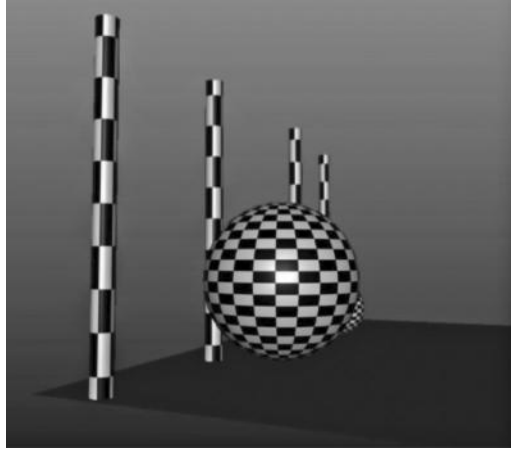

FIGURE 4.10 Objects further away are blurry when the depth of field is turned on.
**Depth of Field**—Depth of field is a phenomenon that focuses the camera on a single point in space, making the objects grow more blurry as they get further from the point in focus or if they are closer to the camera. This is the same effect as looking through the windshield of your car when a bug splatters onto it—looking at the bug, which is just a couple of feet from your face, causes the cars in the distance to get blurry. The same thing occurs when you look back to traffic and the bug on the windshield gets blurry while the objects far away come into focus. You can mimic this effect at render time with the depth of field setting, which is altered from the focal point setting, which sets the point at which the camera is fully focused. Figure 4.10 shows the effect of setting a depth of field focal point for a render.